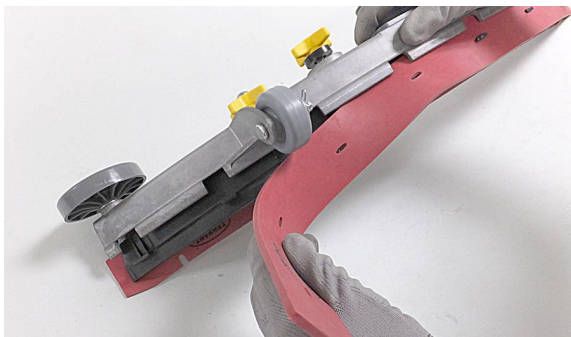

FIG. 124
3. Remove worn blade(s) from the blade retainer (Figure 124).